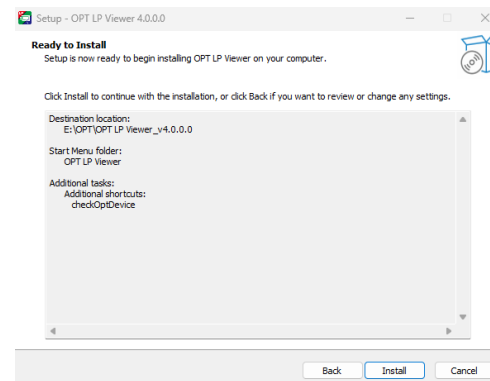

Figure 1.4.3 Selecting the Installation Location
- 4 Click Next, then click Browse to select the installation path for the OPT LP Viewer software, as shown in Figure 1.4.3.